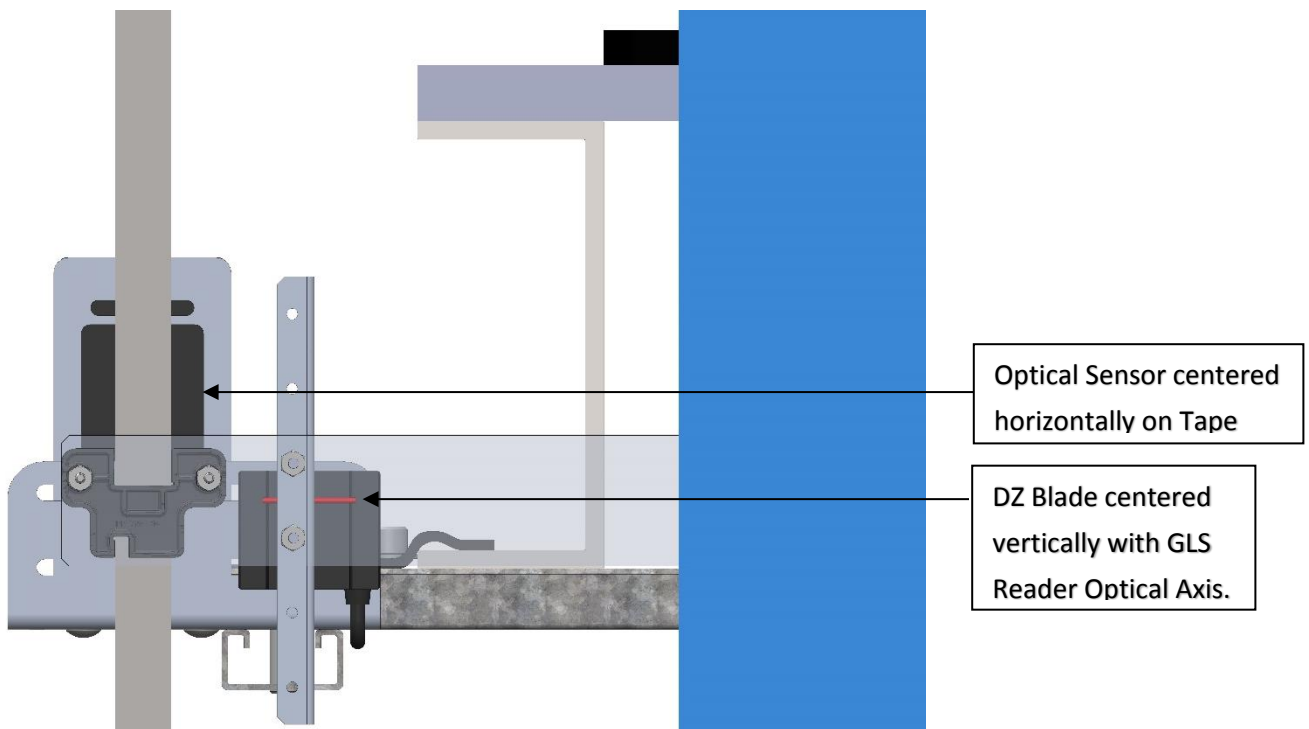

Figure 14: Tape Clip Assembly Placement. Rear view.
- Place the Tape Clip assembly onto the Guide Rail so that the DZ blade is centered vertically with the GLS reader Optical Axis as shown in figure 14.